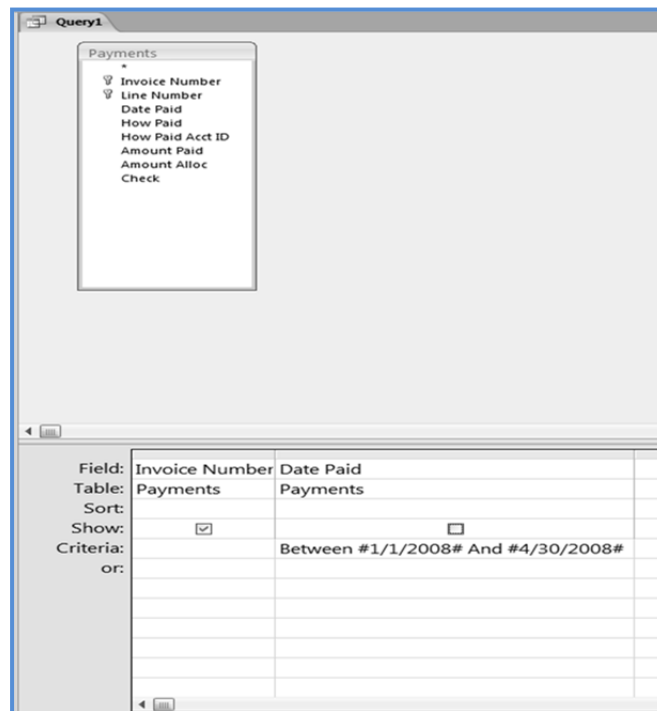

Fig. 1.2.8: Specify the criteria
5. In the **Criteria** section of the *Date Paid* Column, write the criteria *BETWEEN #1/1/2008# AND #4/30/2008#* and clear the **Show** checkbox. The *Query Design* window should appear, as shown in Fig. 1.2.8.